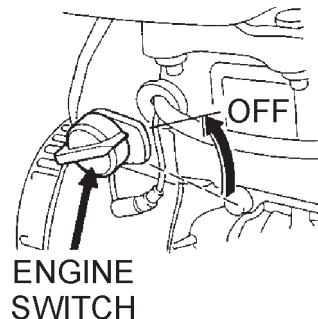

Figure 30. Engine ON/OFF Switch (OFF Position)
2. After the engine **cools**, turn the engine start/stop switch to the "**OFF**" position (Figure 30).